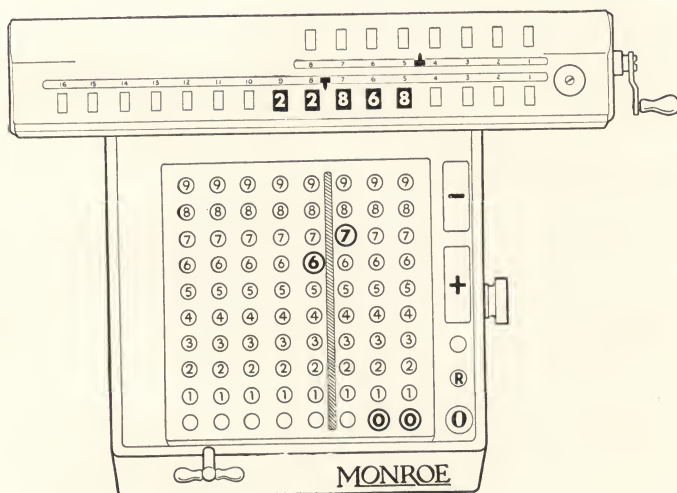

Figure 9
**Step 4**—The first operation is to add the dividend, 22.868, in the lower dials. Set 22.868 on the keyboard. Move the carriage to the “5” position so that 22.868 will show in the lower dials correctly pointed off at the decimal point in the 7th place. See Figure 9.
**Step 6**—Set 6.7 on the keyboard so that it appears as 6.700. Have the carriage in the “5” position so that 6.7 can be subtracted from the 22.8 of the dividend. See Figure 9.